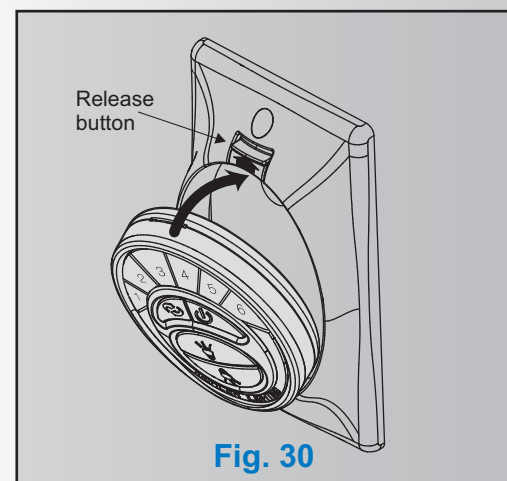

Fig. 30
1. Insert the transmitter into the wall plate by inserting the bottom of the transmitter first and then press the top of the transmitter into the pocket. The transmitter will fully function from this location or you can remove the transmitter and use as a "Hand Held" device. (Fig. 30)